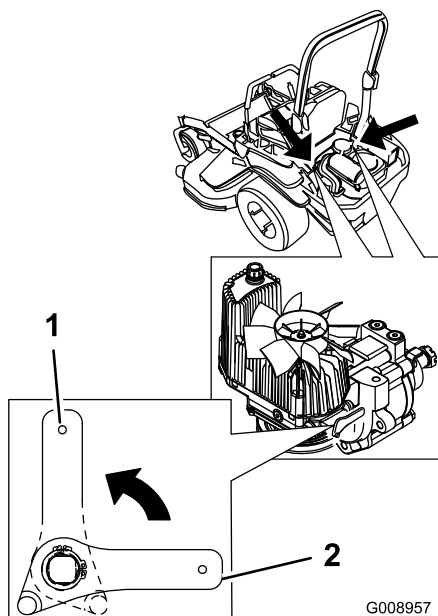

Figure 38
2. Rotate the release-valve levers vertically to push the machine (Figure 38).
4. Rotate the release-valve levers horizontally to run the machine (Figure 38).